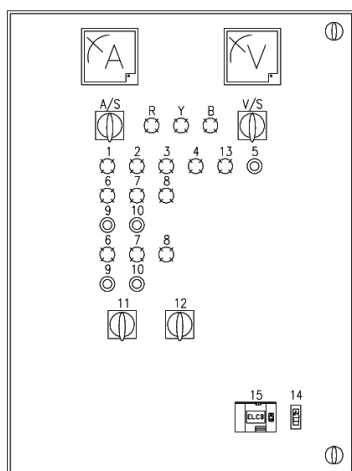

Fig. 6: Control cabinet
**i** Fig. 6 "Control cabinet" Shows the fore-view of the control cabinet for a scrubber with a circulation pump and a ventilator. The applicable wiring diagrams are shown in section 14 „Switching diagrams“ on page 26.